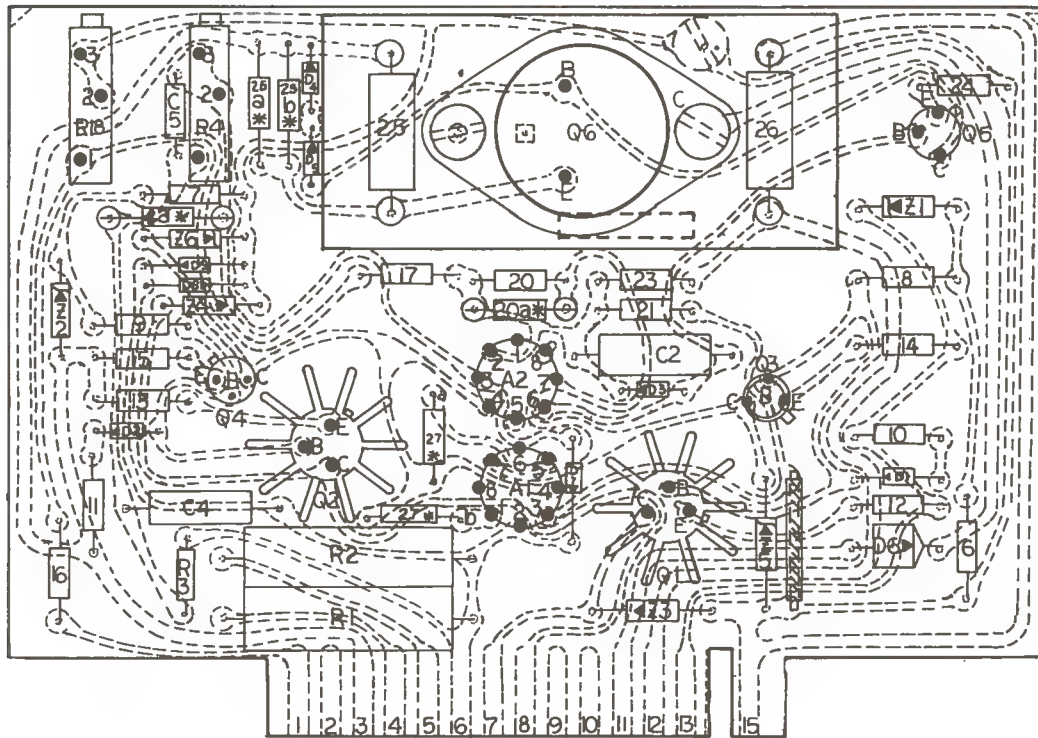

Figure 2. Pictorial Diagram of the EM-A-10
An explanation of the circuitry follows. Refer to the complete schematic diagram figure 1, the pictorial diagram figure 2, and the simplified schematic diagram figure 3.
E. TROUBLE SHOOTING PROCEDURE: Determine if the EM-A-10 module is functional. Refer to the schematic diagram figure 1 and the pictorial diagram figure 2.